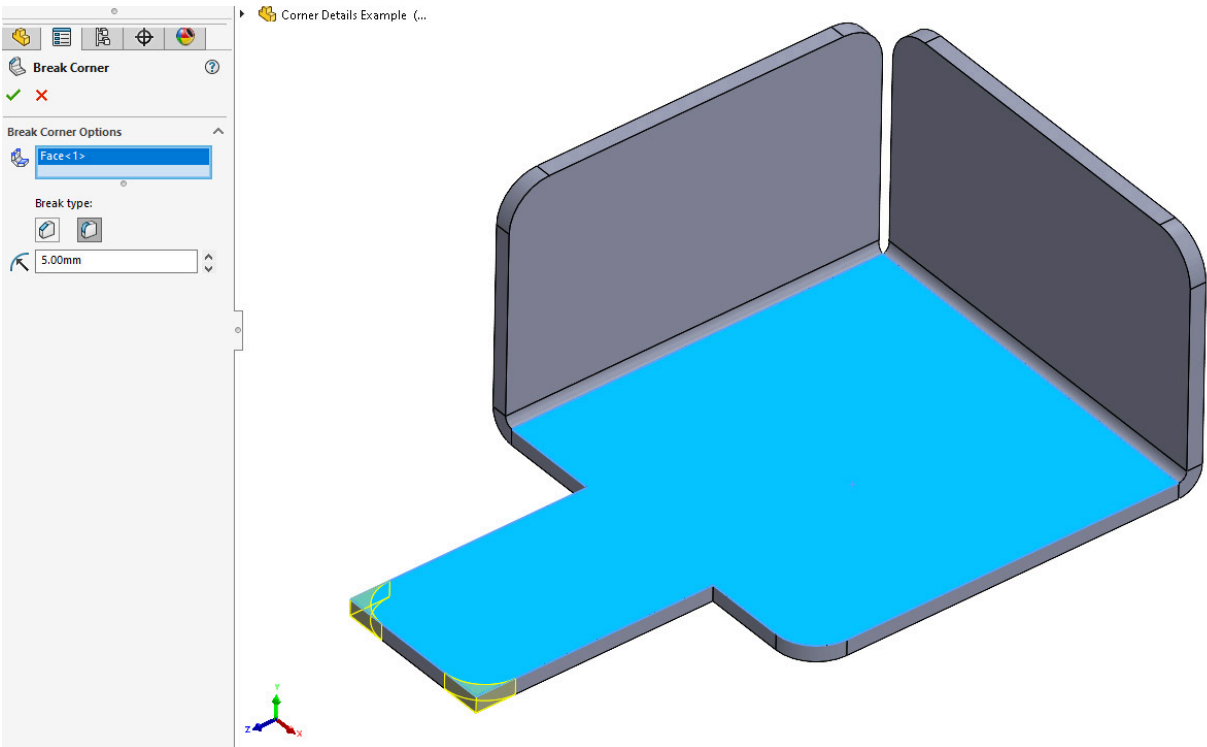

Figure 9.11: Selecting the Base Flange face
3. Using the same settings as before (**Fillet, 5mm size**), select the **Base Flange** face again. Note how just the *external* corners are selected (Figure 9.11):